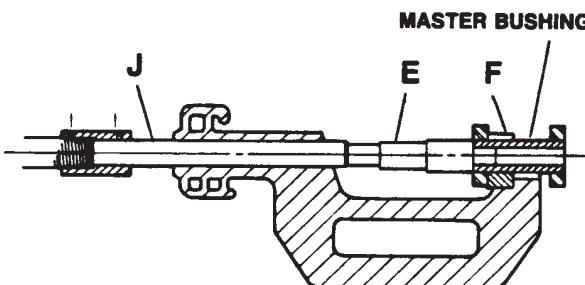

FIGURE 3
**NOTE:** Refer to the tooling charts to find the tooling needed for your specific application. Refer to Figures 3 and 4 when assembling the tool components indicated by the tooling chart.
2. Using the same rear forcing pin (J) that was used for the master pin removal, install the bushing adapter (F) in the end of the "C" frame as shown in Figure 3. Secure with the thumbscrew.
3. Position the track so the master bushing can be correctly placed in the bushing adapter (F) as shown in Figure 3. Insert the bushing pusher (E) into the bore of the master bushing.
**IMPORTANT:** Each end of the bushing pusher (E) has a different diameter. The end of the bushing pusher (E) that provides the closest fit is the correct end to be inserted into the bore of the master bushing.
4. Turn the cylinder adjusting screw crank until the forcing pin is against the bushing pusher (E). Check the tooling and bushing again to ensure correct alignment.